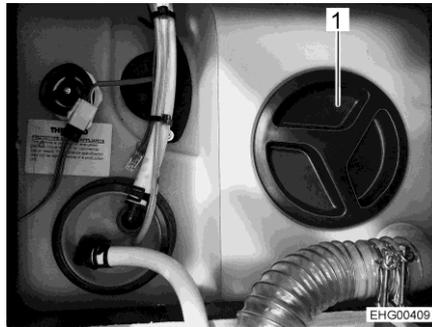

Fig. 156 Water tank, iNDUS system
- Remove the cap (Fig. 156,1) of the water tank.